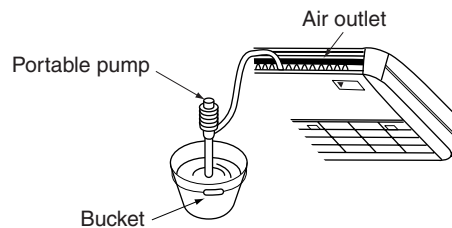

Fig. 25
(2) Confirm that smooth drainage is achieved after the piping work.
- Add 0.6 liter of water in the drain pan from the air outlet for confirming drainage. (Refer to Fig. 25)